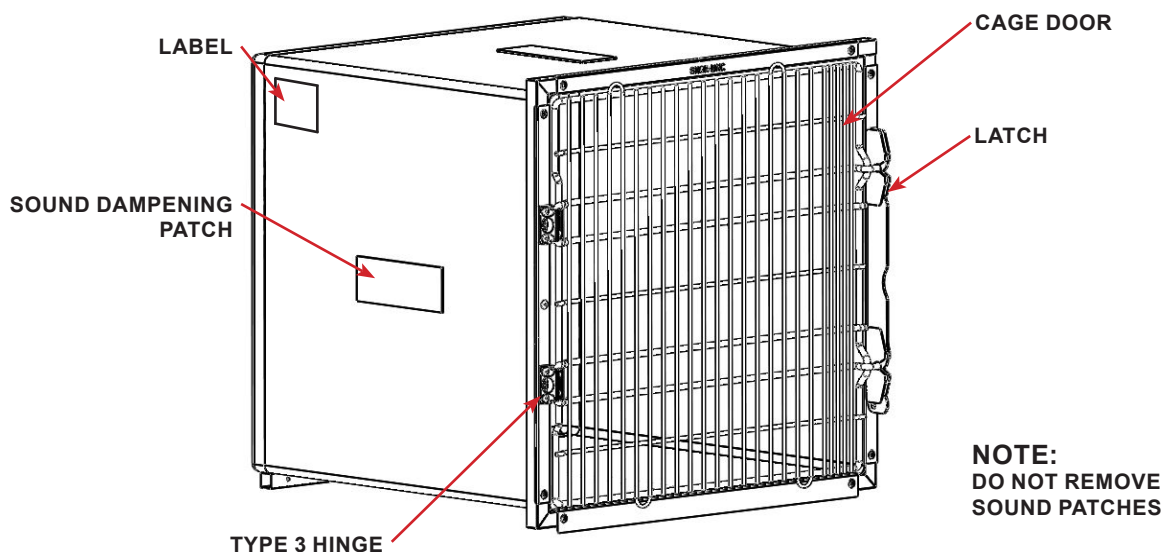

FIGURE 1.1 - Typical Stainless Steel Cage
*This Guide can be used to identify parts and their associated parts numbers listed on the packing slip. See FIGURE 1.1, 1.2 and 1.3*
Type III Cages are available in many sizes and cage bank configurations to best serve a variety of space conditions and facility requirements. The shipping box and each cage have printed labels with a description, to include cage sizes to help organize and stage cage bank components during the assembly process. Cage bank configurations vary, contact a Shor-Line sales representative for cage bank configuration drawings to aid in the assembly process. See FIGURE 1.1